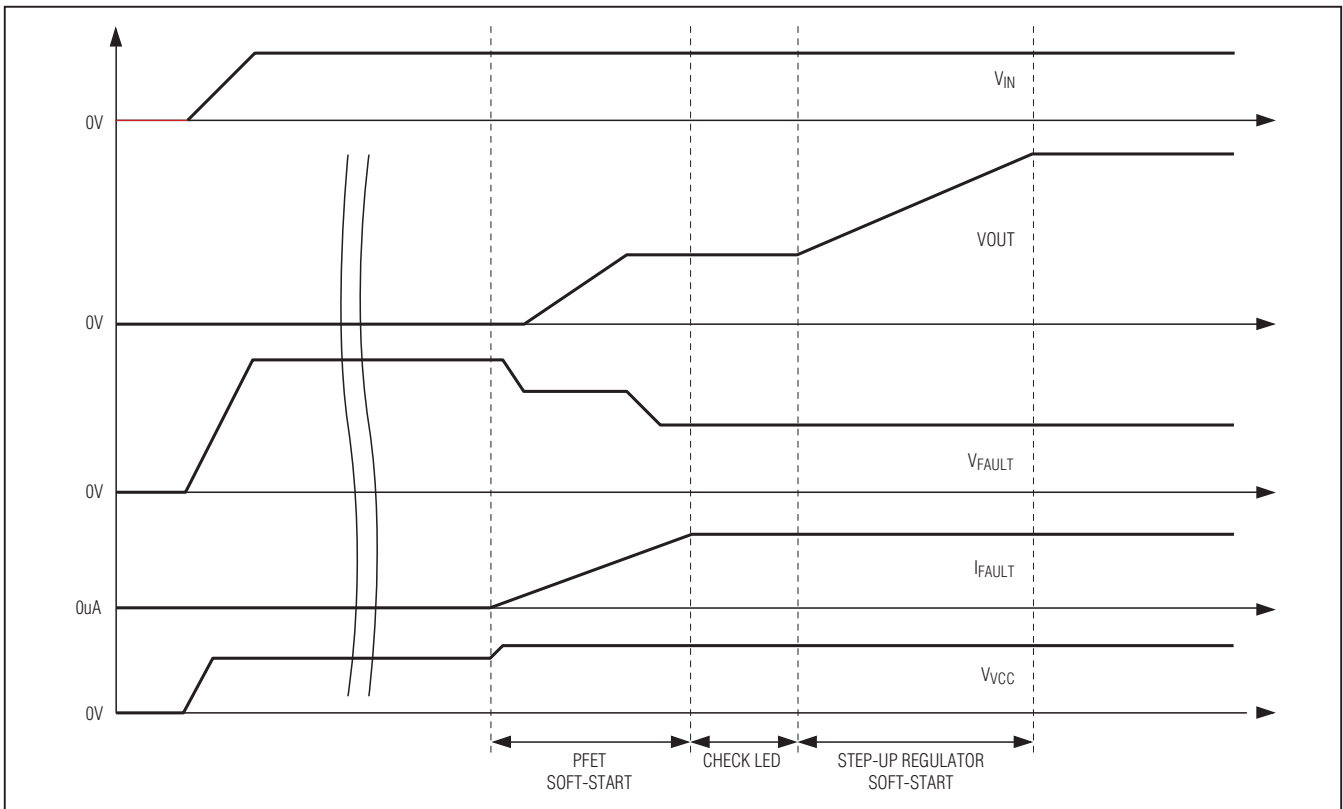

Figure 3. MAX17105 Startup Timing Sequence
0.8mA (typ, 0.4mA min) current source during 1ms (typ). If some FB_ voltage is lower than 1.2V (max), the string is considered to be unused. Therefore, when a string is not in use, it should be connected to SGND. All other strings with FB_ higher than 1.2V (max) are detected as in use. After the LED string diagnostic phases are finished, the step-up regulator starts. The total startup time is less than 10ms. Figure 3 shows the sequence.